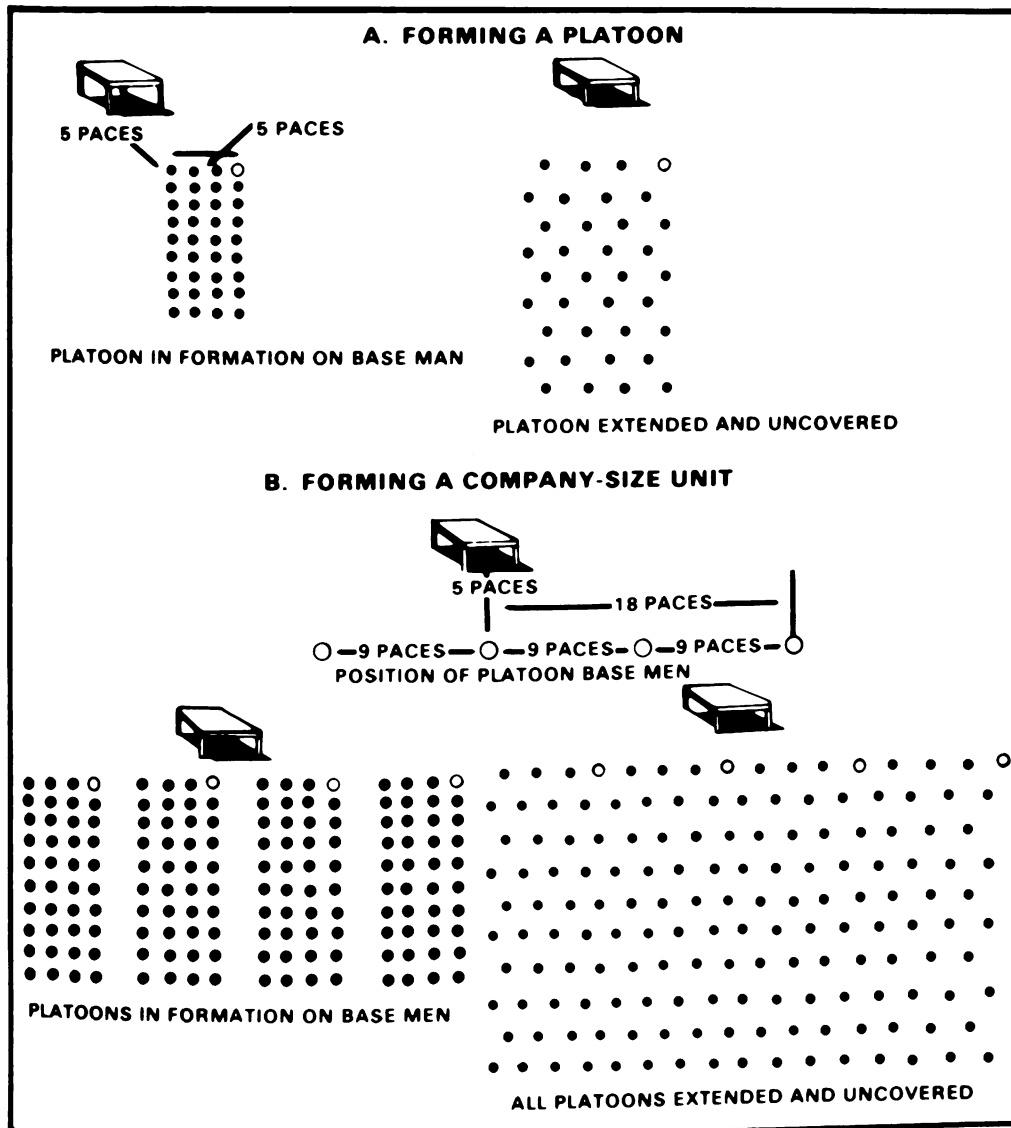

Figure 1. Forming the extended rectangular formation.
3. Extended Rectangular Formation (fig 1). The formation used most frequently for carrying on physical training activities is the extended rectangular formation. This formation is the best type to use for large numbers of men because it is easy to control. The following commands are given to form this formation.
NOTE: In figure 1, the baseman is represented by a white circle.